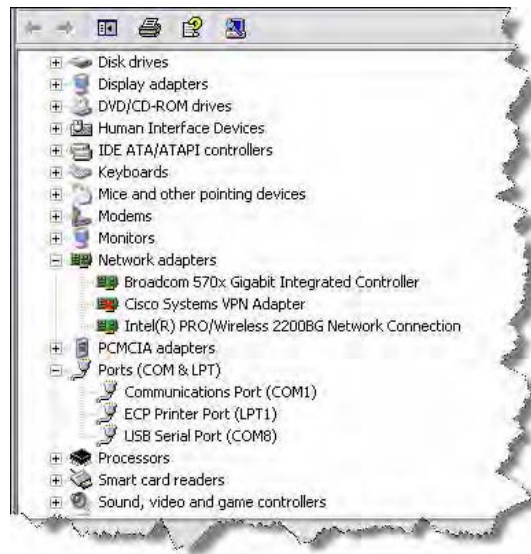

Figure 2-1: Typical Device Manager Window
3. Select **Start**→**Control Panel**→**System**→**Hardware Tab**→**Device Manager**. The Device Manager window looks similar to the one shown in Figure 2-1.